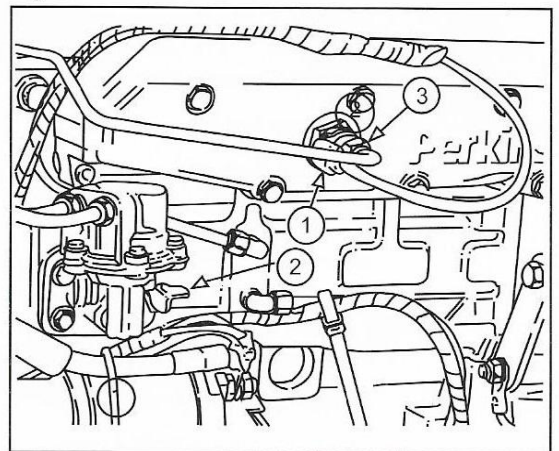

Fig. 33
4. It may be necessary to operate the fuel pump hand priming lever, (2, Fig. 33) several times to ensure that there is an adequate supply of fuel at the injection pump if the tractor has been standing for a long time.
1. If the fuel system has been disturbed, the tractor has been standing unused or the thermostart has not been used for some time, ensure that fuel is available at the thermostart before use. Operate the fuel pump hand priming lever (2, Fig. 33) several times and slacken the thermostart union (3, Fig. 33), allowing fuel to seep out. Then tighten the union. Failure to observe this precaution may result in a discharged battery.